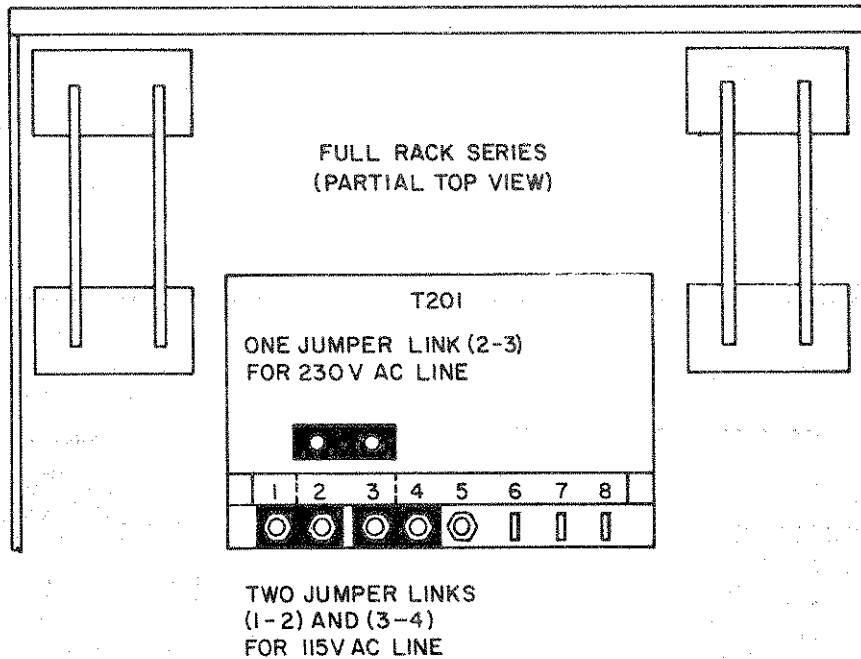

FIG. 2-2 CONVERSION TO 230V AC NOMINAL LINE OPERATION
- 2-5 This power supply is normally supplied for operation on a single phase, nominal 115V AC line. For conversion to 230V AC line operation, refer to FIG. 2-2. Remove the two links between transformer terminals (1)-(2) and (3)-(4). Reconnect one (1) link between terminals (2) and (3). DO NOT CHANGE ANY OTHER WIRING ON THE TRANSFORMER.